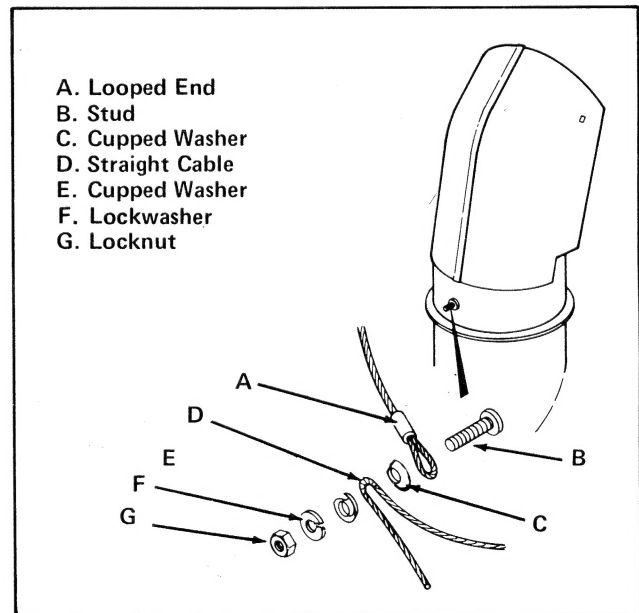

Figure 18. Attaching Cable
6. Point spout forward and place looped end (item A, figure 18) over the stud (item B) on rear of spout.